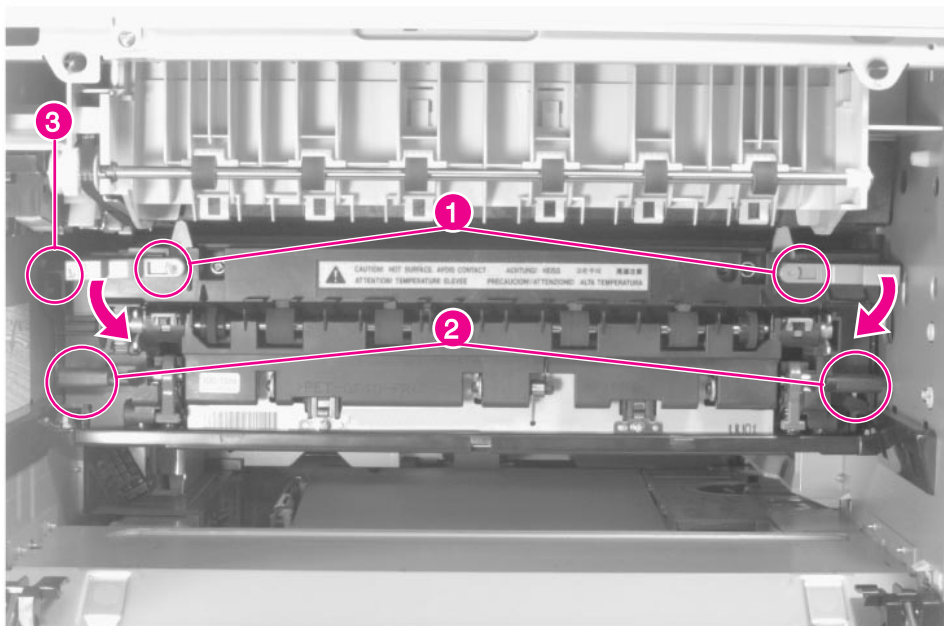

Figure 6-36 Fusing Assembly
- 2 Remove the Fusing Assembly (see figure 6-36 on page 252).
- 2 To release the Fusing Assembly rotate the upper levers down (figure 6-36, callout 1).
- 3 To remove the Fusing Assembly lift up on the finger handles (figure 6-36, callout 2) while pulling outward.
- 1** Make sure that the Fuser Output sensor flag (figure 6-36, callout 3) on the upper left corner of the Fusing Assembly rotates freely.